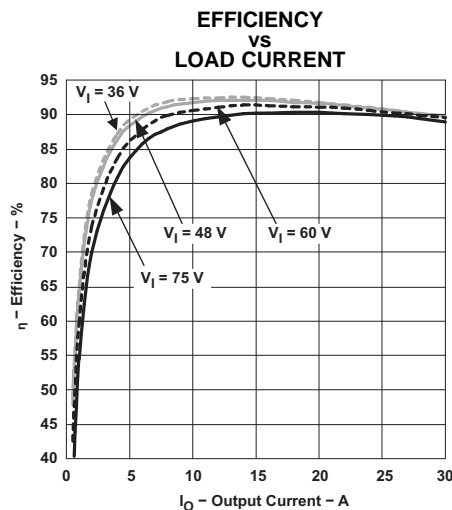
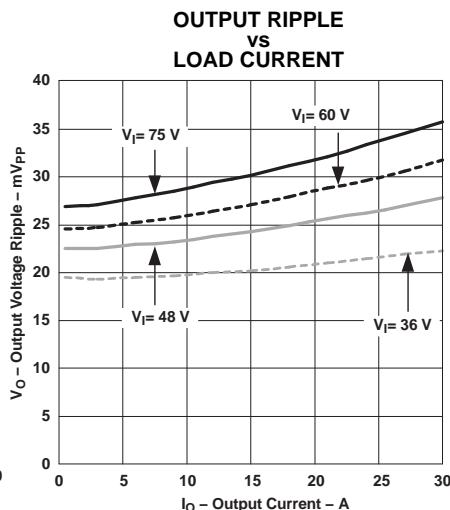
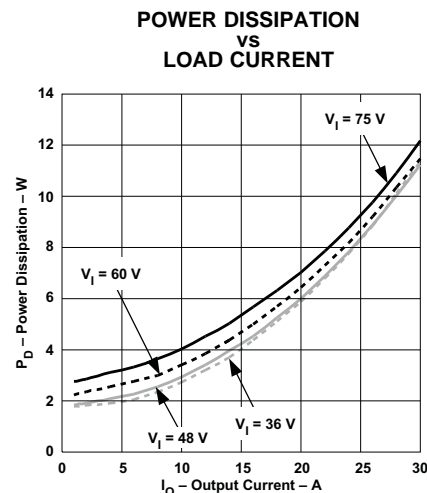

Figure 5.
Figure 6.
Figure 7.
- (1) All data listed in Figure 5, Figure 6, and Figure 7 have been developed from actual products tested at 25°C. This data is considered typical data for the dc-dc converter.